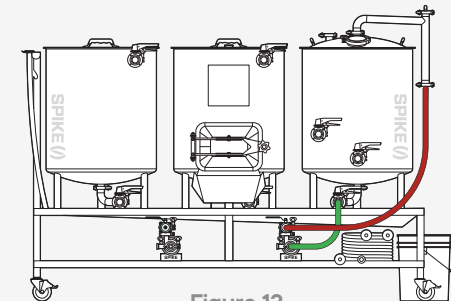

Figure 13
21. Remove the (Gold) hose. Remove the steam condenser tube and move the hose (Red) from the Wort Out port to the bottom of the steam condenser. (see **Figure 13**)